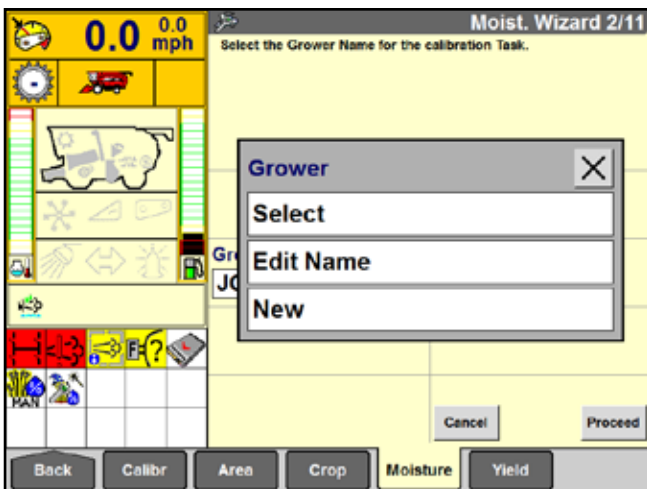

Figure 16.3a
- First display calibration load identification input screens in order (Grower, Farm, Field, Crop, Task; see figure 16.3a & 16.3b)